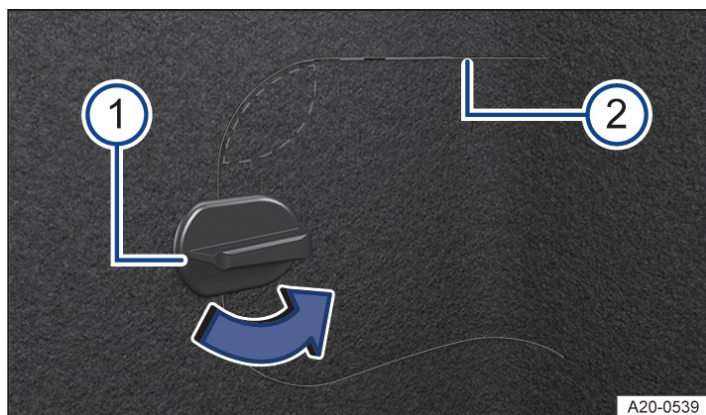

Fig. 2 Lower right-hand side of the luggage compartment trim: flap for the manual release mechanism.
1. Turn the catch of the flap by 90° → Fig. 2 ^① (blue directional arrow).
2. Press in the area above the catch → Fig. 2 (highlighted area).
3. Reach into the opening and release the flap by pulling. If necessary, use a suitable tool at the coupling point → Fig. 2 ^②.